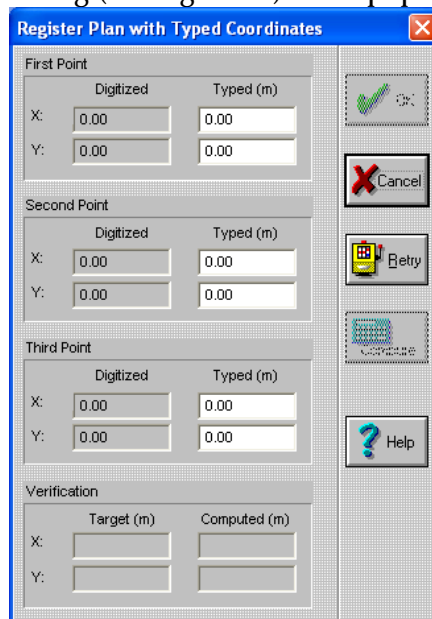

Figure 16. Typical registration dialog.
1. Select Setup, Register Plan (or Register DXF Background), Typed Coordinates in the main menu. TNM will display a registration dialog (see Figure 16) and a pop-up help box.